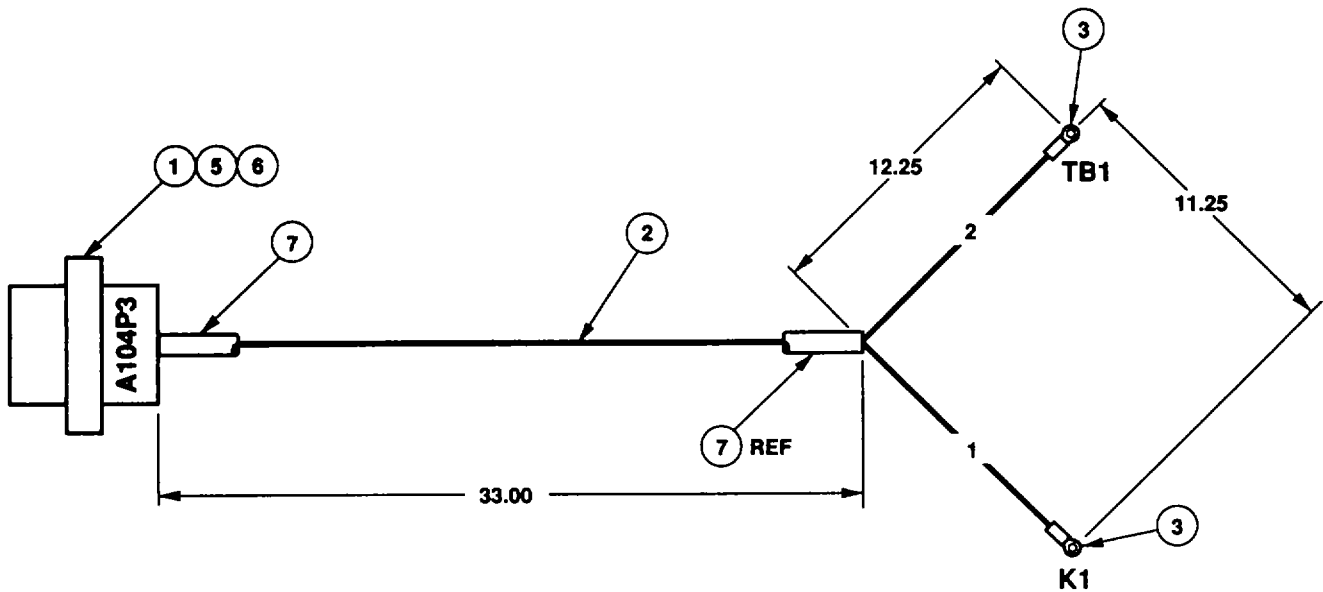

Figure F-9. Wiring Harness A104P3.
- b. Remove and discard cable clamp adapter (Figure F-9, 5), insulation sleeving (6), and insulation sleeving (7) from connector (1) and wiring.
- d. Cut wire to dimensions shown in Figure F-9.
- f. Install wire in connector (1).